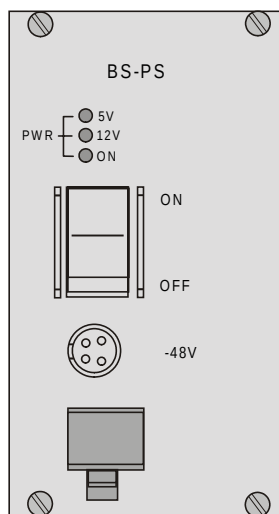

Figure 2-6. BS-PS Front Panel
The BS-PS provides -48VDC to all the modules installed in the BS-SH rack. The BS-PS front panel is shown in Figure 2-6.
4. Connect the DC power cord to the –48 DC In jack (marked –48V) located on the front panel of the BS-PS power supply shown in Figure 2-6. If a redundant power supply module is installed, connect a power cable to it as well.
2. Connect the AU -PS power cord to the DC In jack (marked DC-12V) located on the rear panel of the Indoor unit (shown in Figure 2-6).